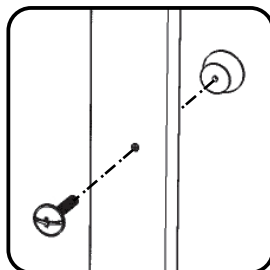

Figure 4
Attach Knobs to Doors (H) and (I) with Machine Screws. (See Figure 4)